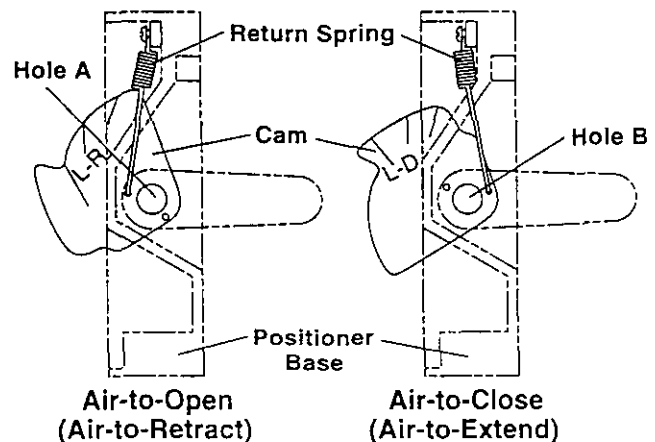

Figure 5: Return Spring / Cam Mounting
4. Referring to Figure 5, install the cam, cam shaft and follower arm for the proper air action. For air-to-open action, the cam should be installed with the letters L-R facing toward the cam shaft and the return spring